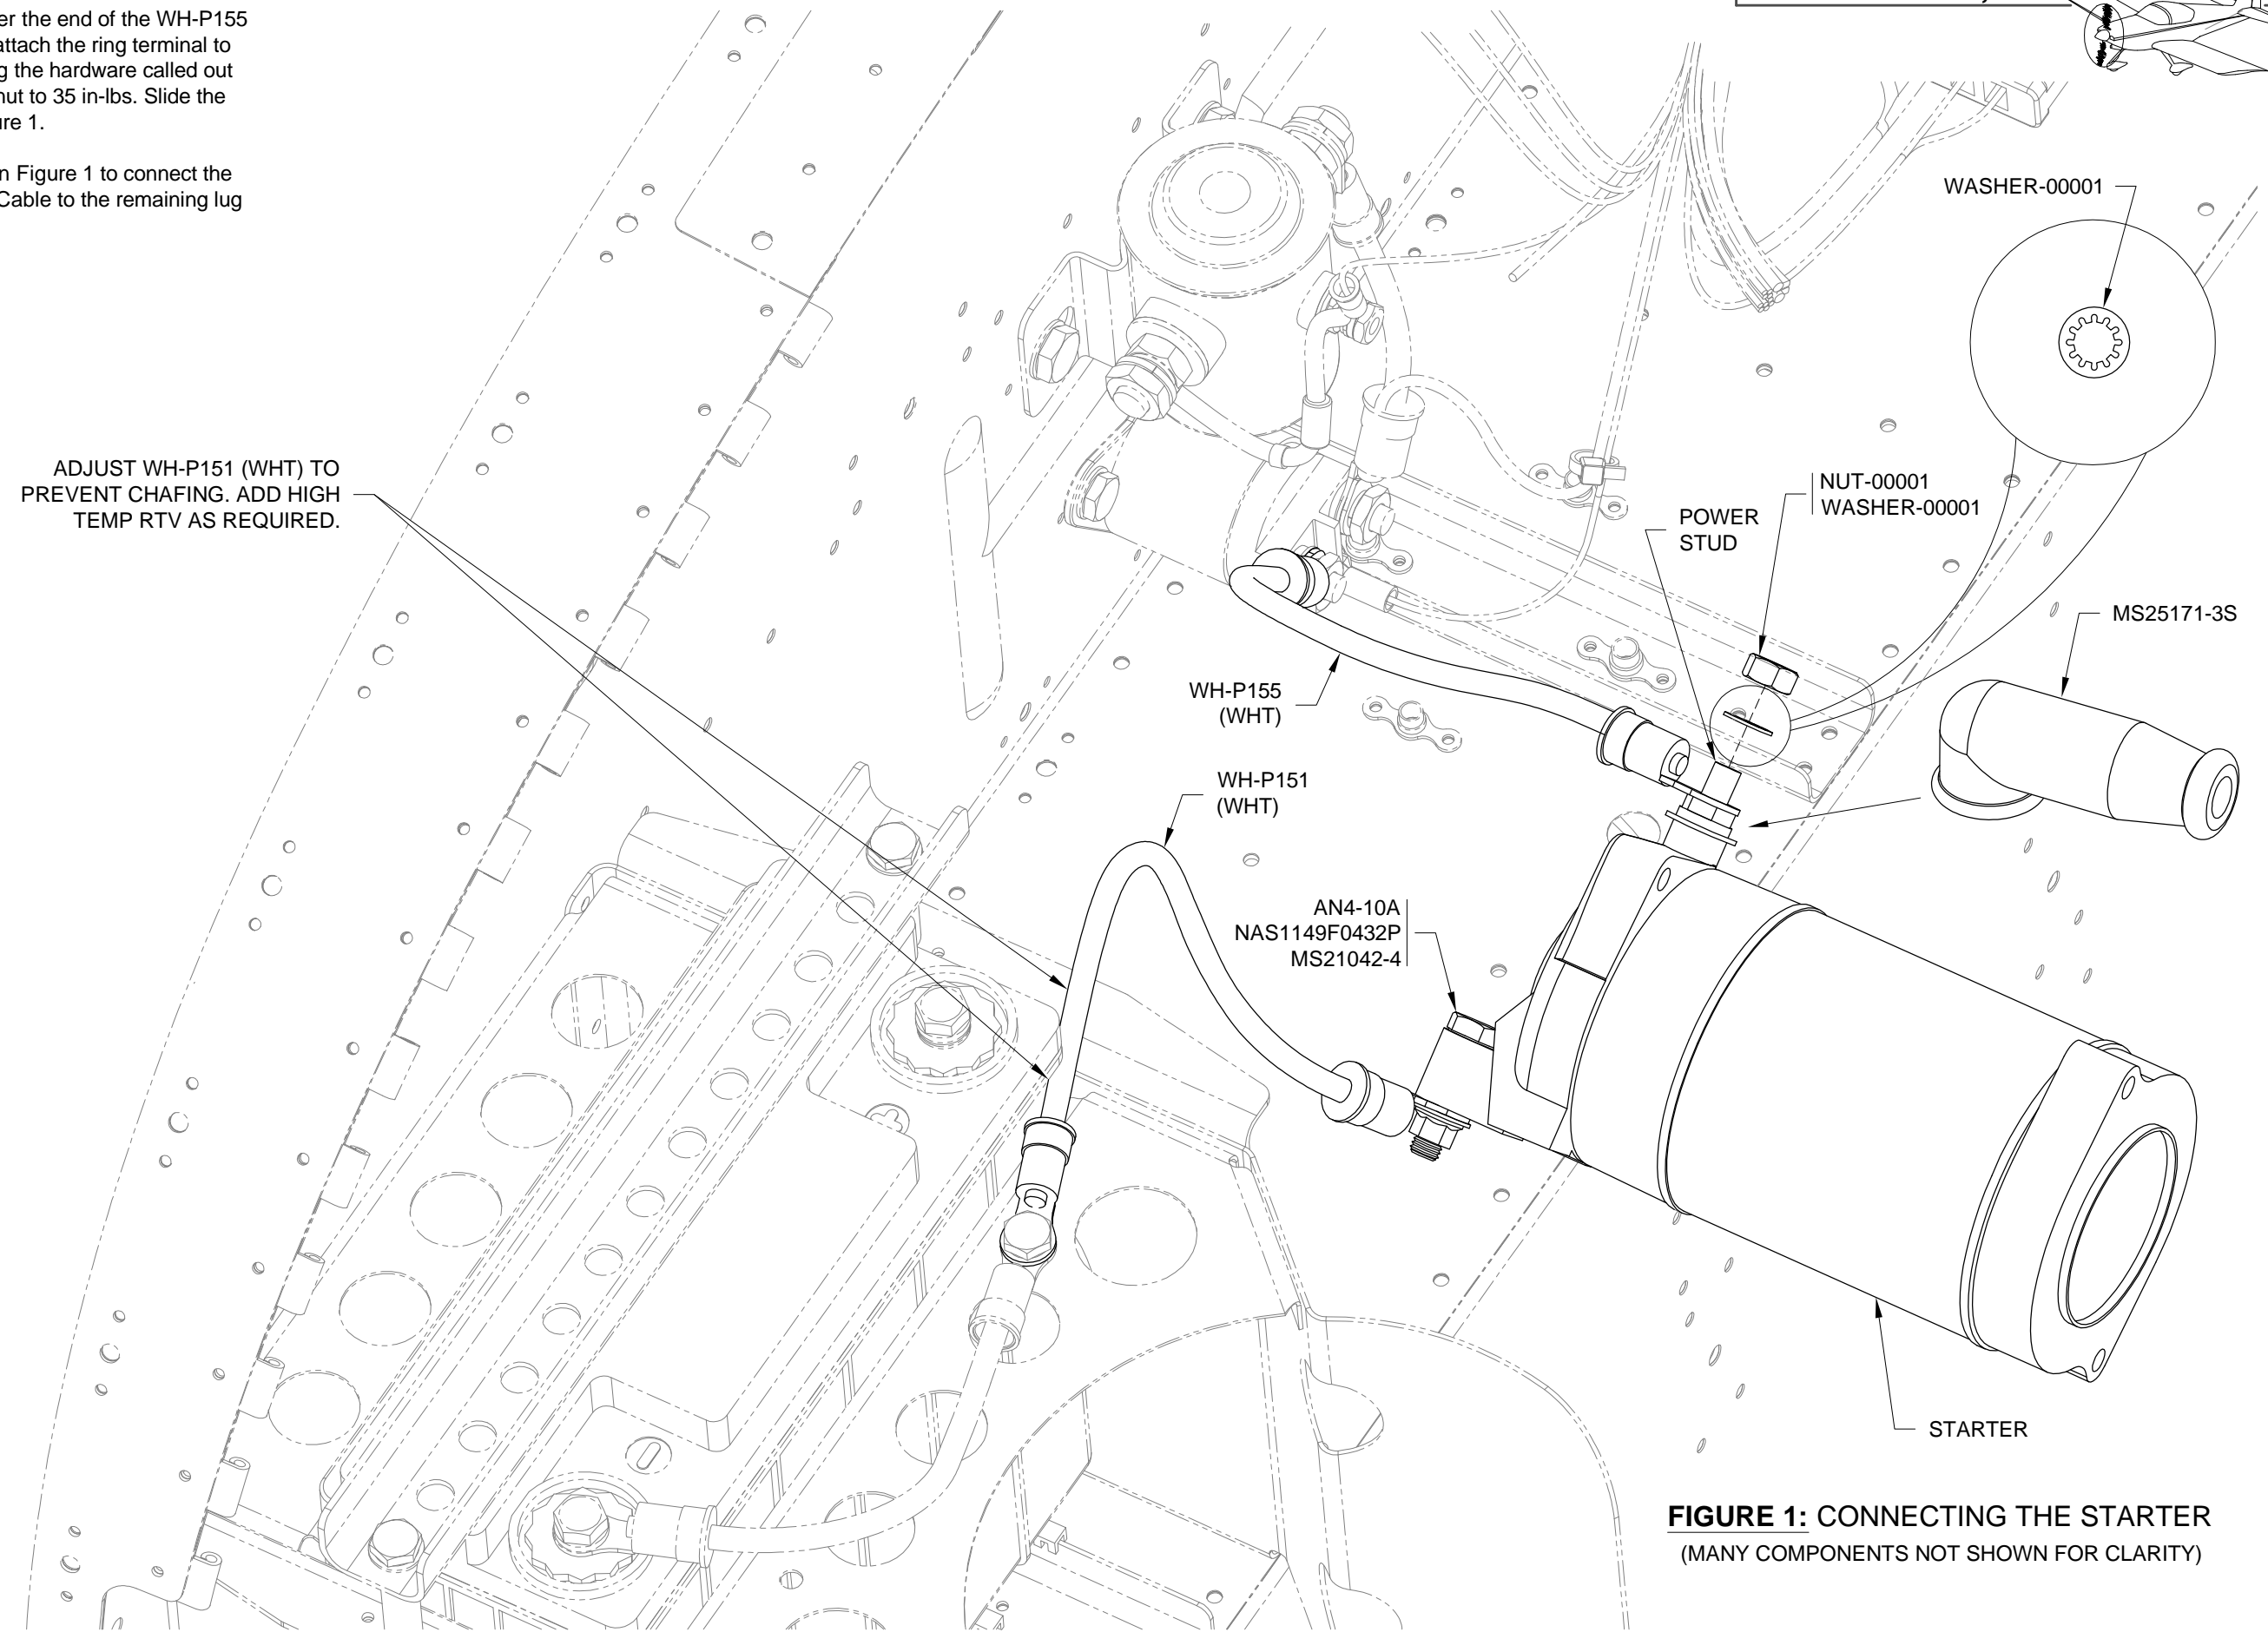

FIGURE 1: CONNECTING THE STARTER
Step 1: Slide an insulated boot over the end of the WH-P155 (WHT) Starter Power Cable then attach the ring terminal to the power stud on the starter using the hardware called out in Figure 1. Torque the 6mm hex nut to 35 in-lbs. Slide the insulated boot into place. See Figure 1.
Step 2: Use the hardware shown in Figure 1 to connect the WH-P151 (WHT) Engine Ground Cable to the remaining lug on the starter.